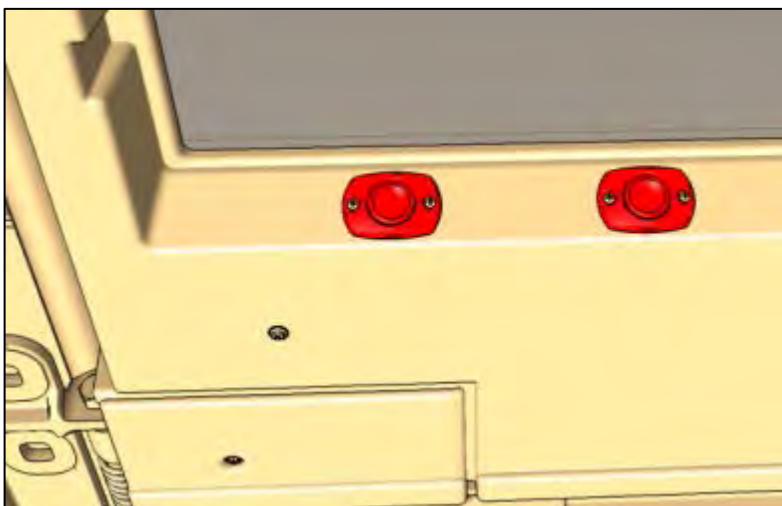

Figure 10
9. Remove "Next Stop" and "Reading Light" buttons (Figure 10)